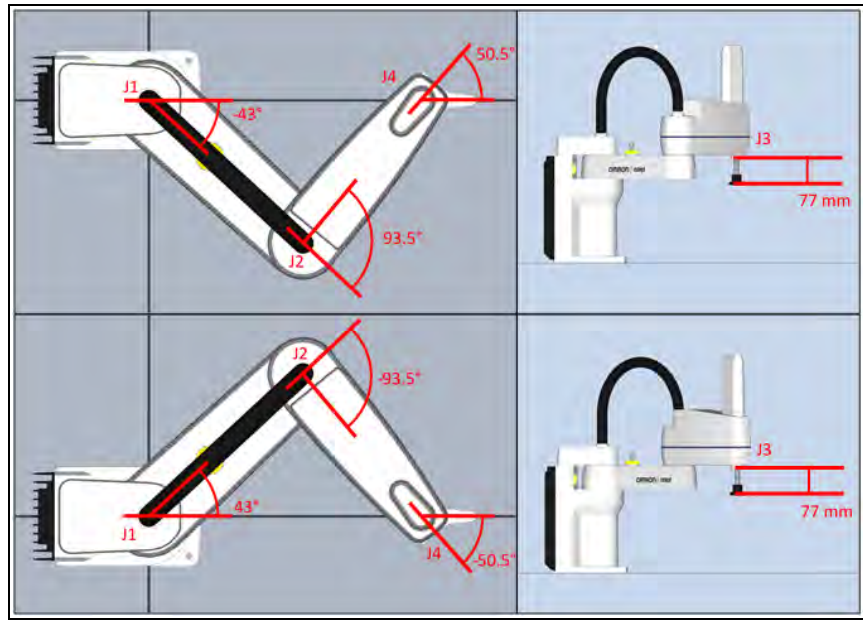

Figure 1-11 Robot Coordinates - Joint
Joint coordinates become useful when defining a point that can be reached in multiple orientations. For example, the two configurations shown in Figure 1-11 have the gripper in the same position (550, 0, 317, 0, 180, 180) as defined by robot world coordinates. However, the
**NOTE:** The orientation of the servo is important when considering joint coordinates. For example, in Figure 1-11 above, the J4 orientation convention is in the opposite direction of the other two rotational joints. This is because the joint 4 servo internal mounting position is inverted.